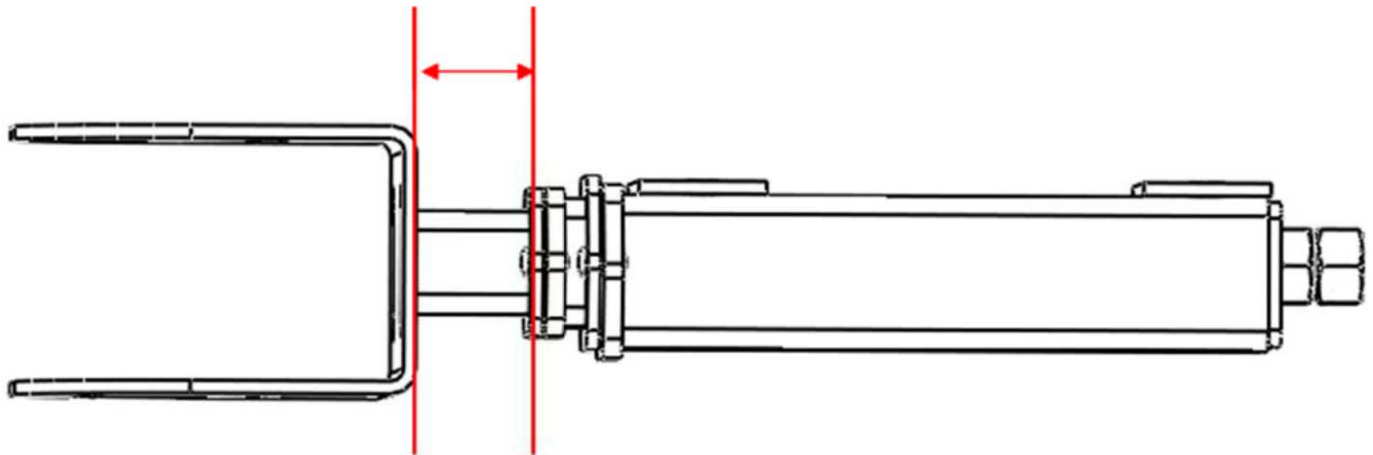

Figure 15: Dimension to take to tension belt
- When the idler sheave firmly contacts the belt, measure distance between bearing bracket and middle tube. Refer to **Figure 15** below.